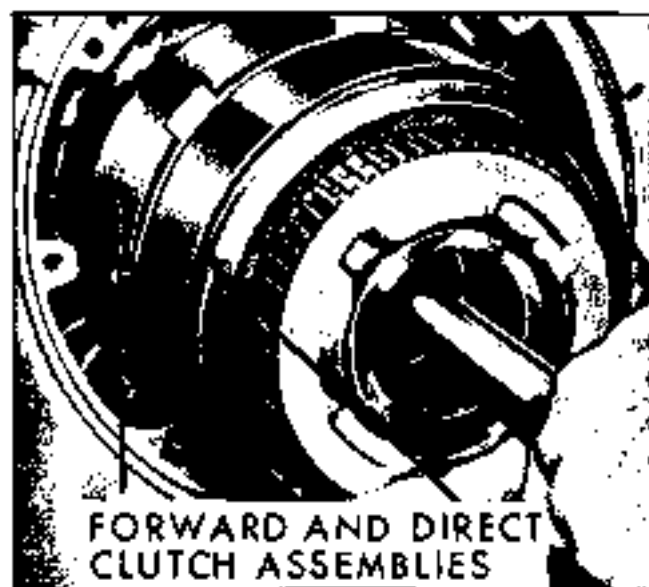

Fig. 7G-26 Removing Forward and Direct Clutch Assemblies
15. Push up on end of output shaft until the low and reverse clutch support assembly clears the low and reverse clutch support retainer spring. Then, remove the low and reverse clutch support assembly from the case (Fig. 7G-31).